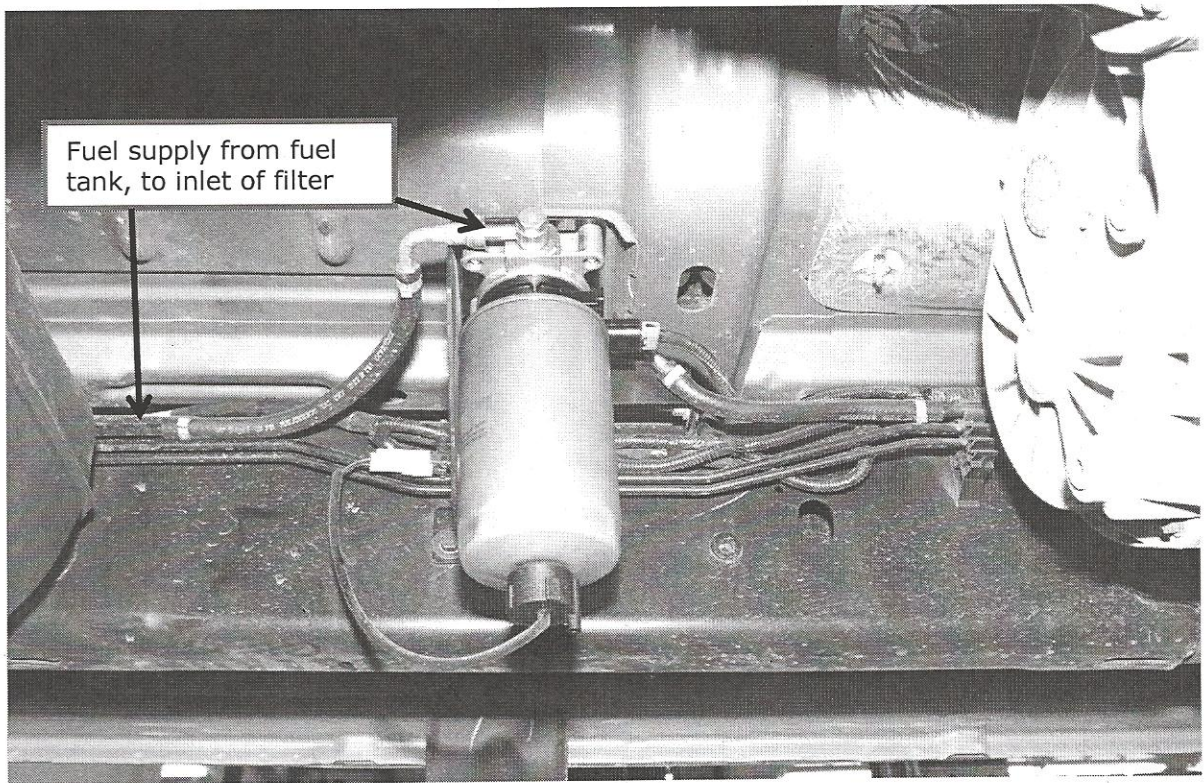

Figure 6
- a. Install the 90° fitting on the inboard side of filter head and directed back toward frame of the vehicle, (See Figure 6).
14. Secure hose ends to fittings with 4 clamps. Finished installation shown in Figure 6 for Pickup, (Cab/Chassis similar).